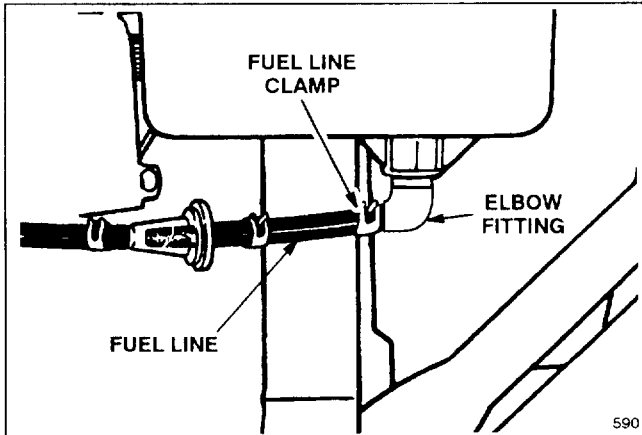

Figure 3
- Remove red cap from end of fuel line and from end of elbow fitting on gas tank. Slide end of fuel line onto elbow fitting (Fig. 3). Secure fuel line in place with fuel line clamp.